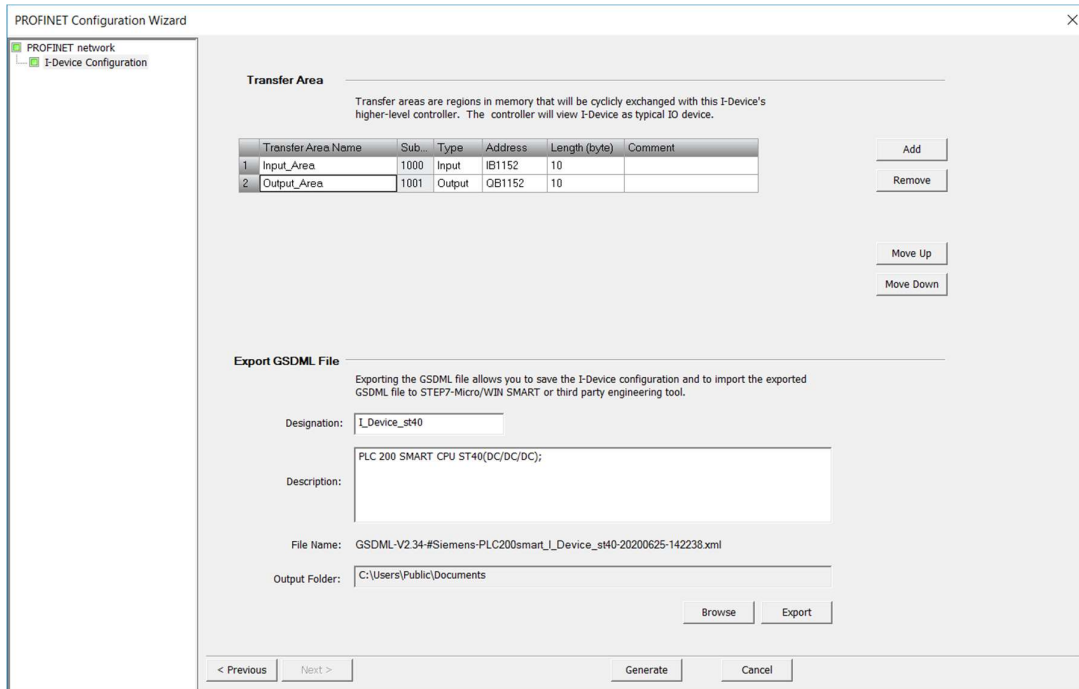

Figure 4. Add transfer area and export GSD file
- 4) Add the transfer area. The first entry is a 10-byte input area starting from IB1152, and the second entry is a 10-byte output area starting from QB1152. Browse the appropriate path to store the GSD file, and then directly Export GSD file. As shown in Figure 4.